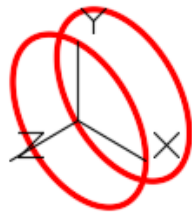

Figure Step 10
Step 10 Copy all objects 0.5 inches in the -Z direction. 0.5 is the thickness of the gear. (Figure Step 10)